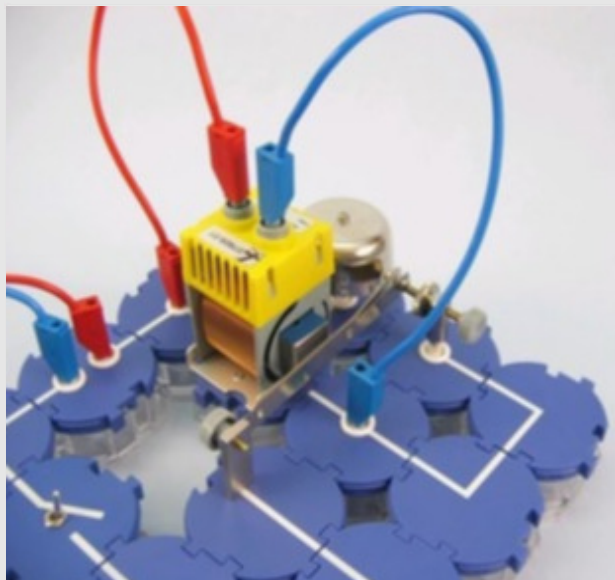

Fig. 3
- Place the coil on the coil holder, insert the iron core (yoke) and then connect the coil via leads to the building blocks (angled with socket or straight with socket) next to the coil as in Fig. 3.